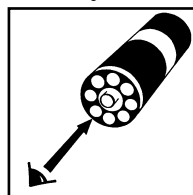

Figure 4
- a. Place the VACUette ampoule, flat end downward into the center tube of the low range comparator. Direct the top of the comparator up toward a bright source of light while viewing from the bottom. Rotate the comparator until the color standard below the ampoule shows the closest match (fig 4).